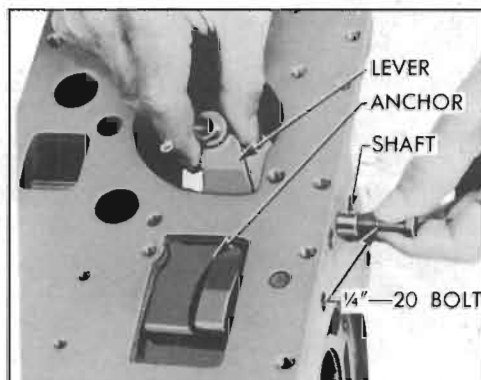

Figure 4-91—Removing Reverse Band Operating Lever and Shaft
4. Thread a 1/4"-20 bolt into the reverse band anchor shaft to pull it from transmission case then remove the operating lever. Rotate the reverse band until the anchor can be disengaged, then remove this part. See figure 4-91.